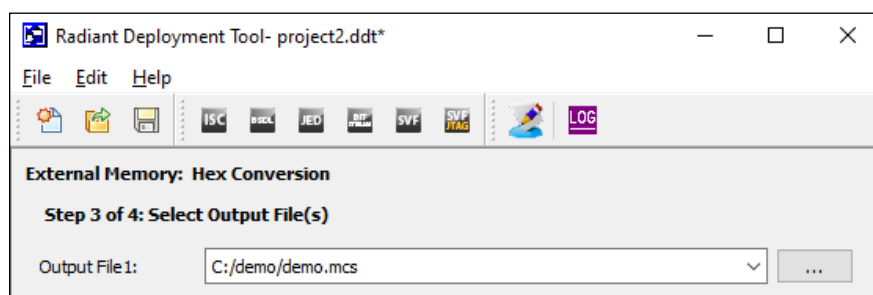

Figure 6.11. Output File Selection
9. Specify the Output File name and click **Next** to proceed. See Figure 6.11.